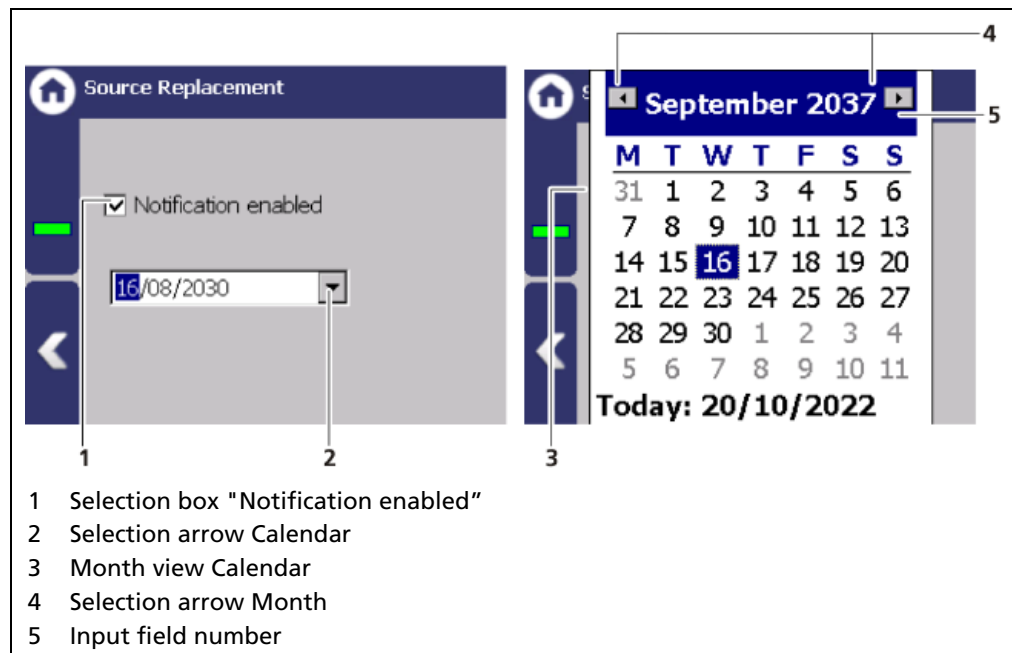

Fig. 93 Source replacement
1. Activate the check box (Fig. 93, item 1).
2. Click on the arrow key (Fig. 93, item 2) in order to set the date.
3. Click on the year (Fig. 93, item 5) to select the year by using the arrow keys.